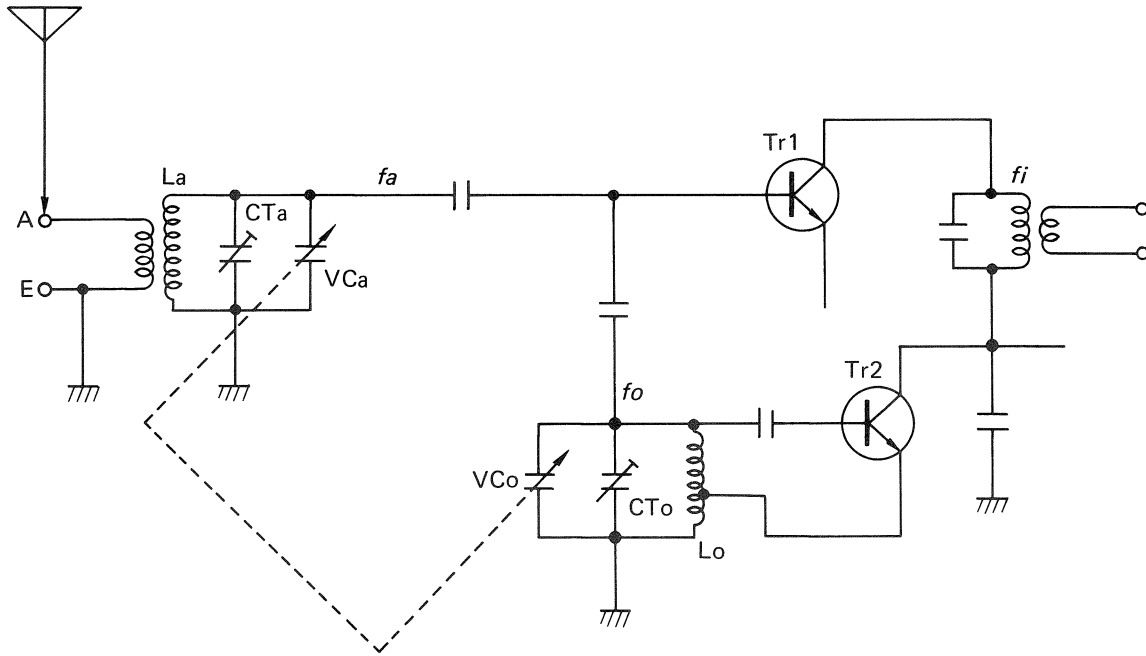

Fig. 2 Frequency converter
mediate frequency (IF) signal, and the converted IF signal is amplified and then detected (see Fig. 2).